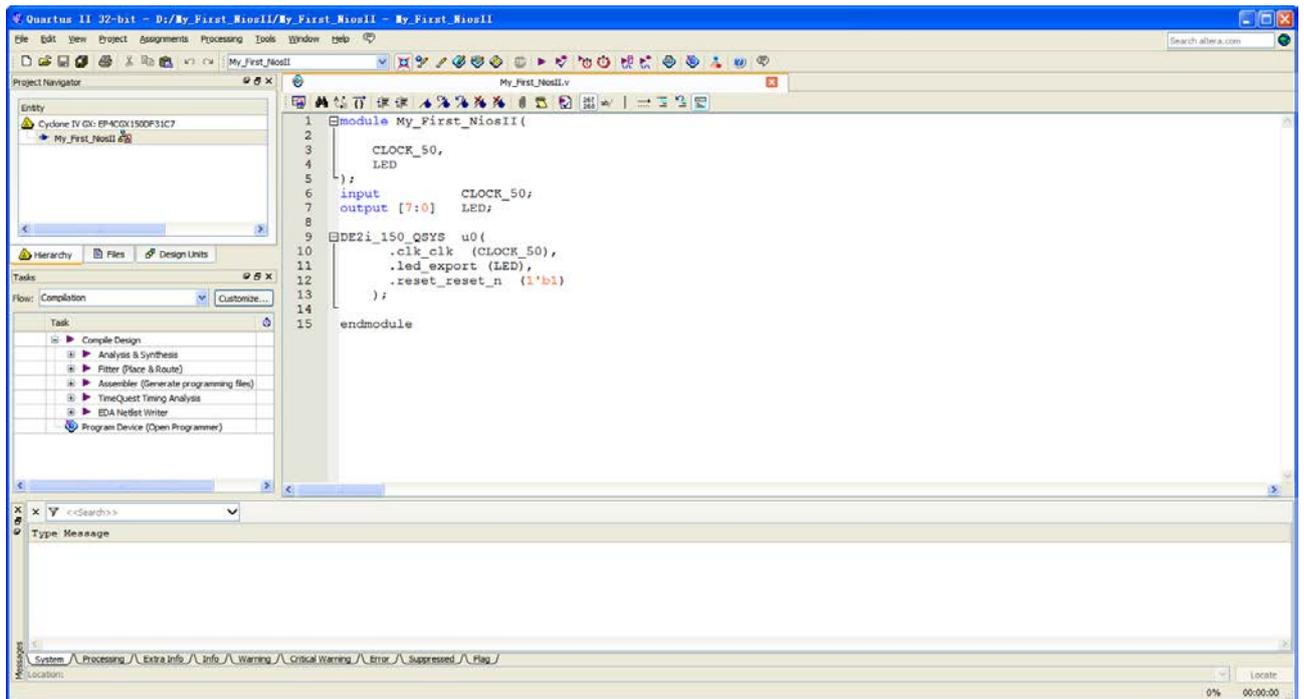
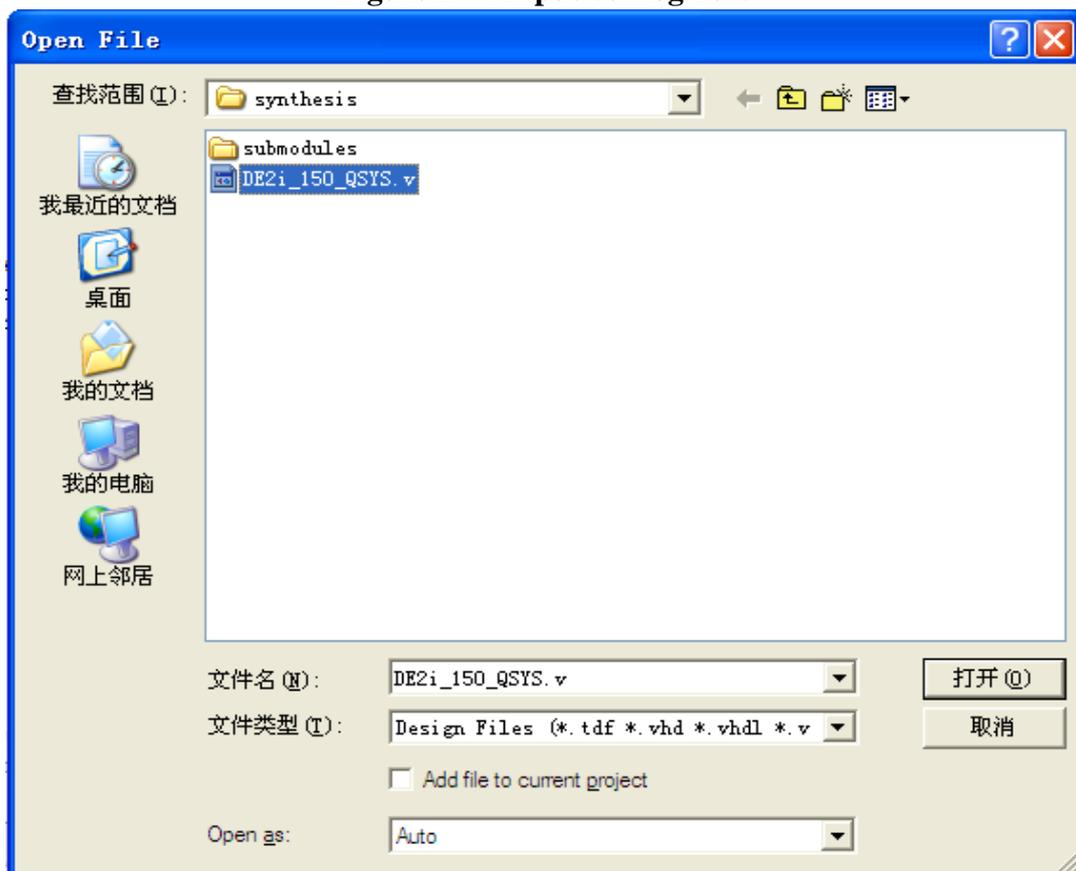

Figure 1-54 Input verilog Text
Figure 1-55 Open DE2_115_SOPC.v
34. Type verilog the following script as shown in Figure 1-54. The module **DE2i_50_Qsys** of the code is from **DE2_115_Qsys.v** of the project. See Figure 1-55 and Figure 1-56.